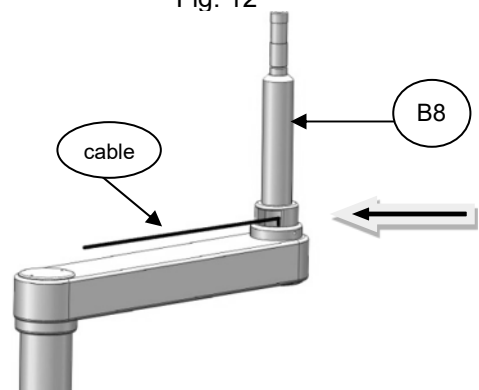

Fig. 14
13. On the upper end of the support, place the VESA support axis **B8**, passing the cables through the slot. Then adjust the three captive screws M3 (Fig.14)